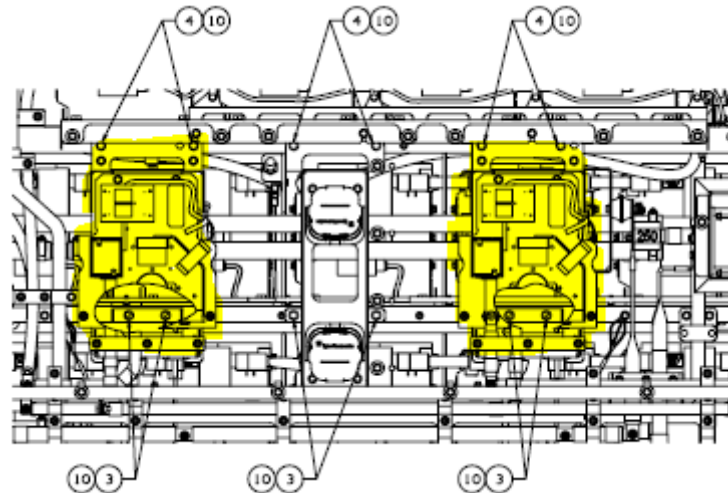

Figure 9: Rear BDU Assemblies
- 3.3 Remove the two BDU assemblies while saving the existing hardware to re-use. 4 bolts are used to secure the BDU to the ESS and 4 nuts are used to secure the bus bars as seen below in figure 9.